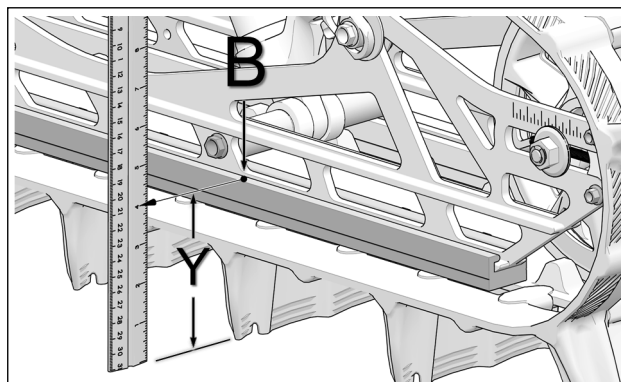

Figure 32
- At the **rear** measurement point (B), measure distance (Y) between the top of the rail slide and the ground. See Figure 32.